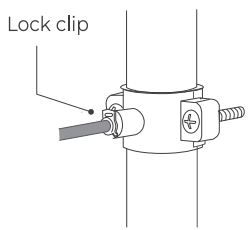

Figure 10
5. Pop the lock clip onto the fitting to secure the connection (Figure 10).